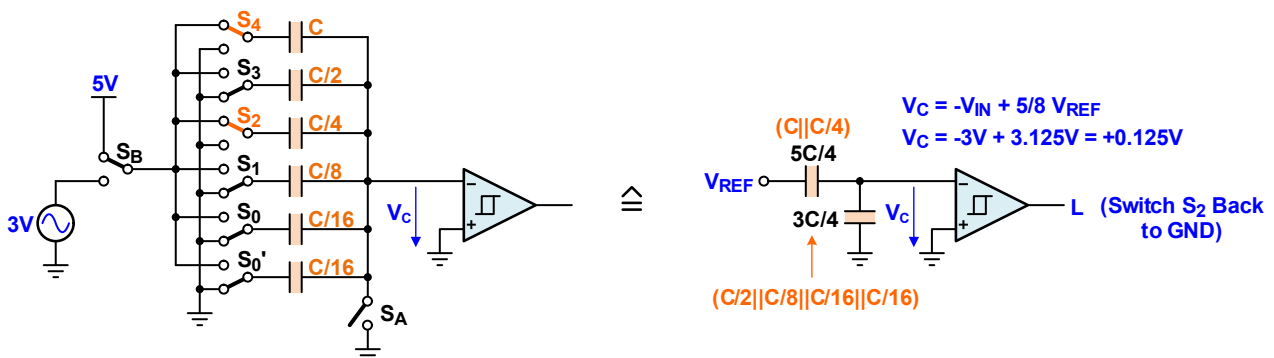

Figure 9. Bit-2: Because  $V_O = L$ , Bit 2 = 0. Therefore,  $S_2$  Must be Switched Back to GND
**Bit 2:** The third conversion step determines Bit 2 by connecting  $C/4$  to  $V_{REF}$  using  $S_2$ . The divider ratio changes to  $X = 5/8$ , causing a comparator input of  $V_C = +0.125V$ . This turns the comparator output low and sets Bit 2 to 0. It also means that  $S_2$  must be switched back to ground (Figure 9).